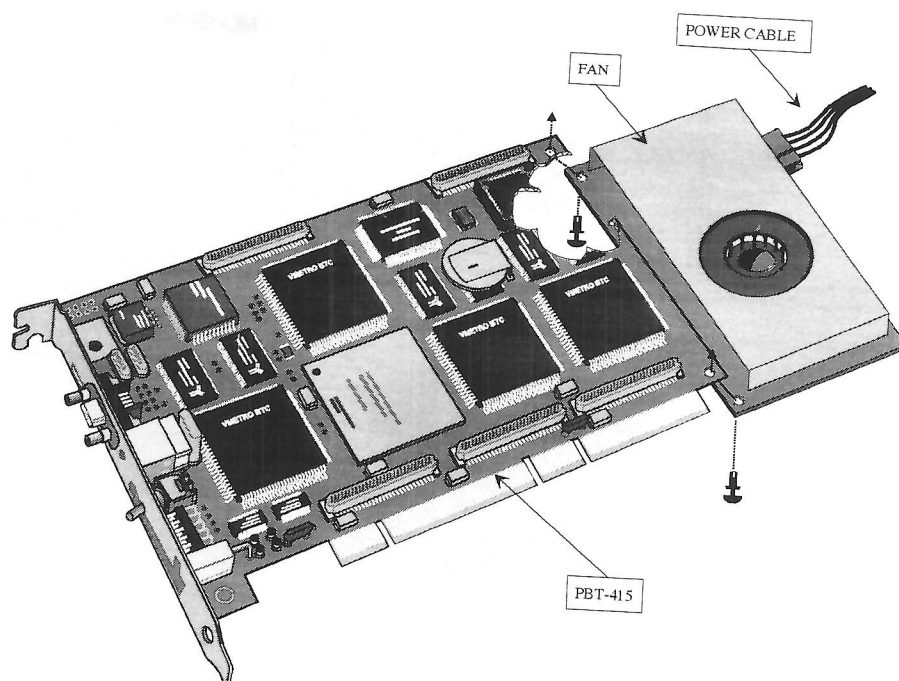

Figure 2.4 Mounting the cooling module on the PBT-415
- Place the fan under the analyzer board and align the mounting holes, as shown in Figure 2.4.